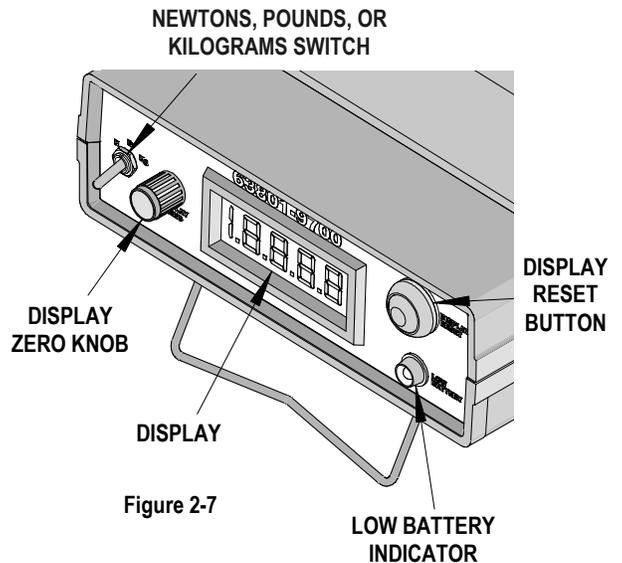

Figure 2-7
6. Select the desired units for testing (lbs, kg, N) using the selector switch on the front of the meter box. See Figure 2-7.
- Zero the display by turning the *display zero knob* fully counter clockwise. Momentarily press the *display reset button*, then slowly turn the *display zero knob* until the display reads -000.0 or 000.0. Press the *display reset button* to ensure the display holds -000.0 or 000.0. See Figure 2-7.
5. Select the desired units for testing (lbs, kg, N) using the selector switch on the front of the meter box. See Figure 2-7.
6. Zero the display by turning the *display zero knob* fully counter clockwise. Momentarily press the *display reset button*, then slowly turn the *display zero knob* until the display reads -000.0 or 000.0. Press the *display reset button* to ensure the display holds -000.0 or 000.0. See Figure 2.7.